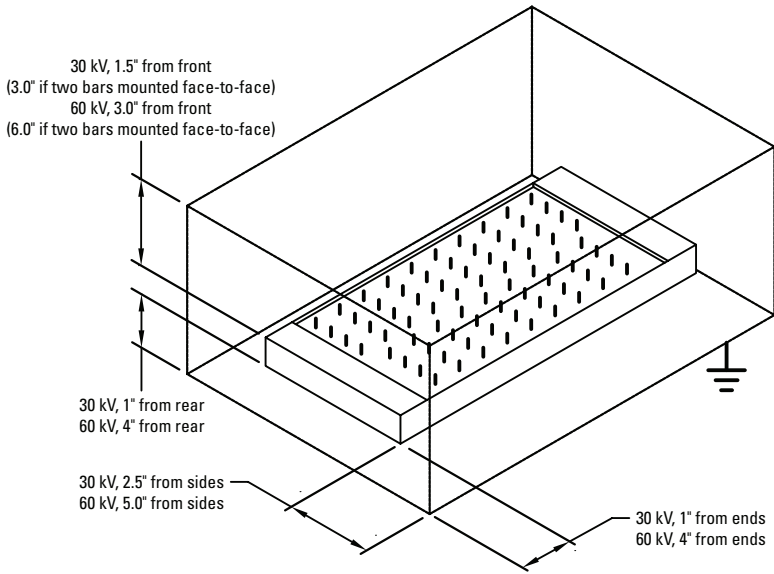

Figure 4
1. Determine the best location for the Pinner Superbar using the above applications for guidance. For optimum performance, bars should be positioned away from all ground references as shown in Figure 4.